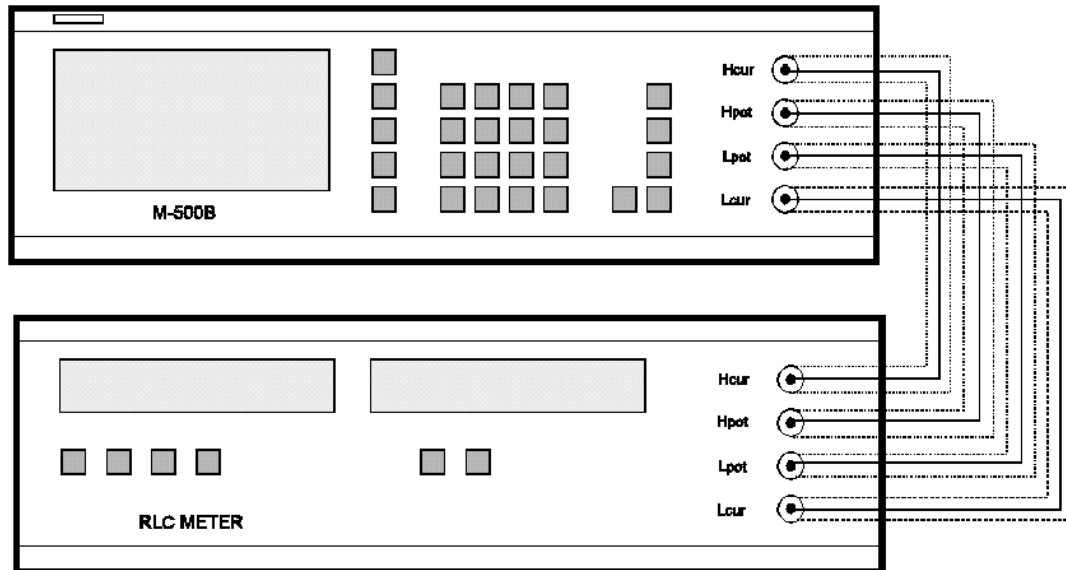

Fig. 9. Calibrator connected to RLC-meter
2. Connect the calibrator according to Fig 9. Select the desired type of Impedance (R, C, L), Range and Frequency.